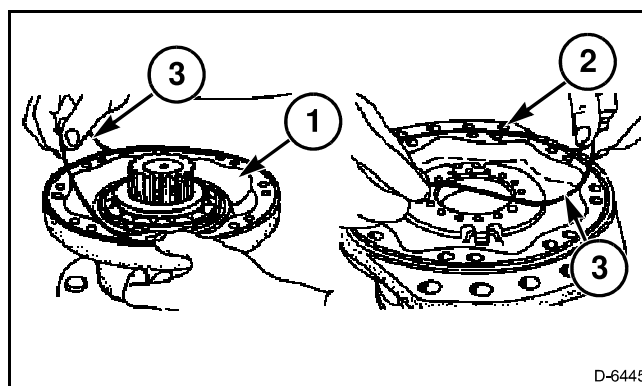

FIG. 234
FIG. 234: Apply a small amount of petroleum jelly or grease at several locations in the O-ring groove of the bearing support housing (1). Install the new O-ring seal into the groove as shown. Lightly coat the exposed surface of the O-ring with clean hydraulic oil to promote proper sealing.